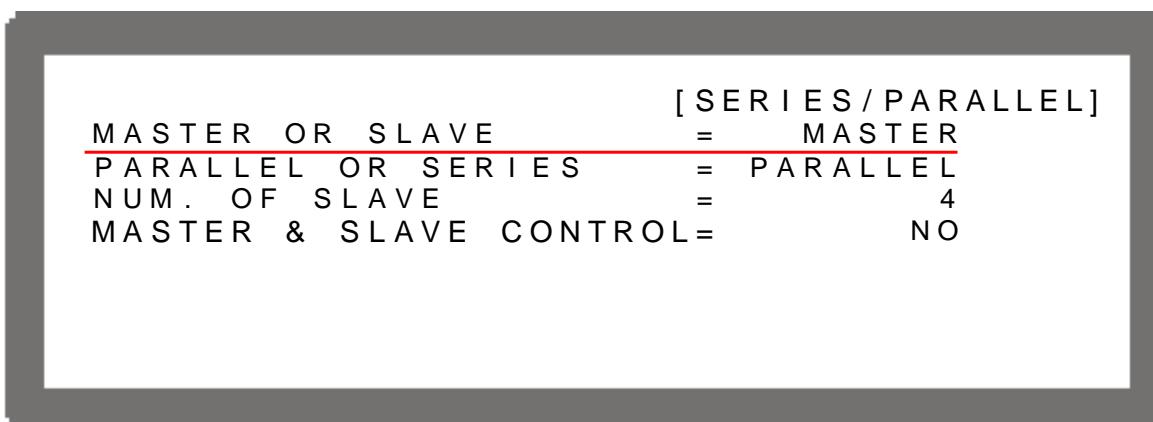

Figure 3-38
2. Use the numeric (**0**) key or “Rotary” () knob to set MASTER as Figure 3-38 shows.